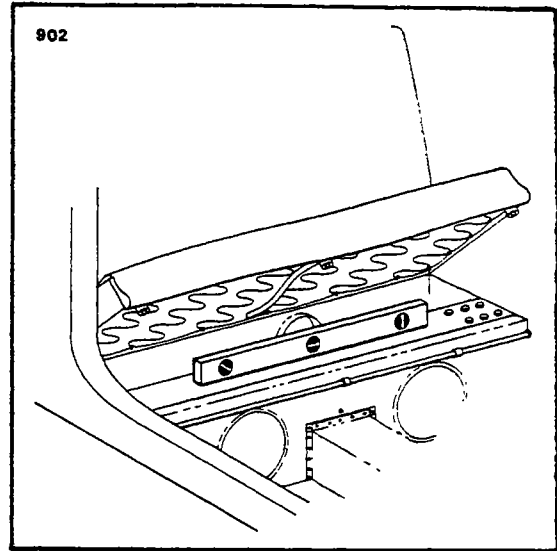

Figure 2-35. Leveling Laterally
b. To laterally level the airplane, place a level across the spar box assembly located at the forward baggage area of the PA-28-140 or under the rear seat of the PA-28-150, -160, -180; PA-28-235; PA-28R. (Refer to Figure 2-35.) Raise or lower one wing tip by deflating the appropriate tire on the high side of the airplane or adjust either jack until the bubble of the level is centered.